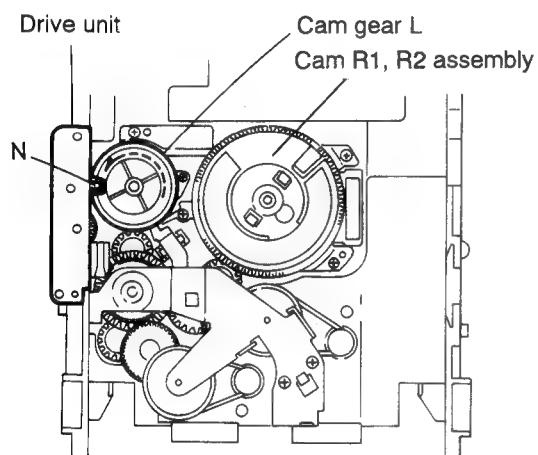

Fig. 5-30
- While turning the cam gear L, align the pawl (N) position of the drive unit to the notch position (Fig. 5-30) on the cam gear L.